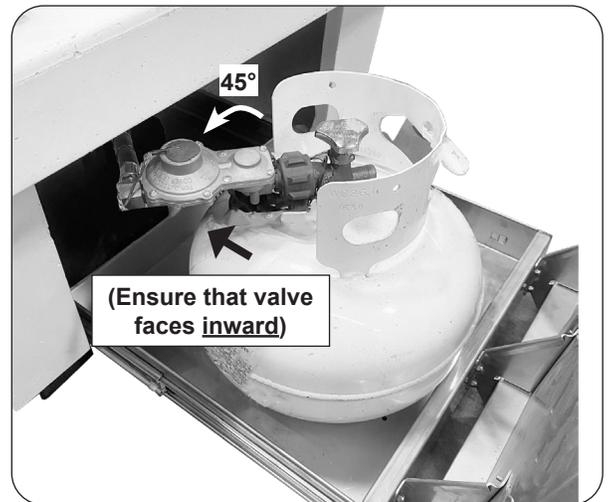

Fig. 2-2. L.P. tank orientation
11. Ensure that the 11lb L.P. tank is positioned with the valve facing inward at a 45° as shown in Fig. 2-2.